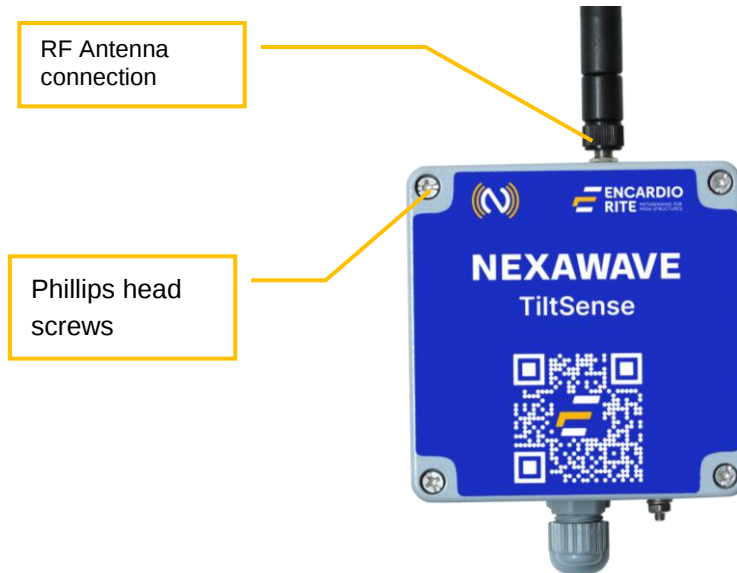

Figure 5-1
- Open the top cover with screwdriver. Description of each part of the tilt meter is given in the figure 5-1.